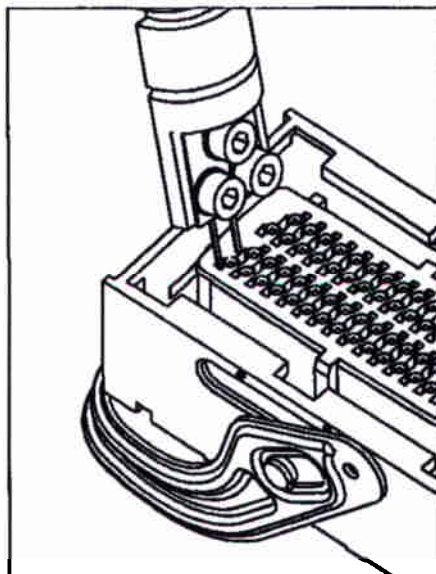

Fig. 2
2. Insert the disassembly tool into the unlocking holes in the connector. Do not push it all the way in yet (Fig.2).